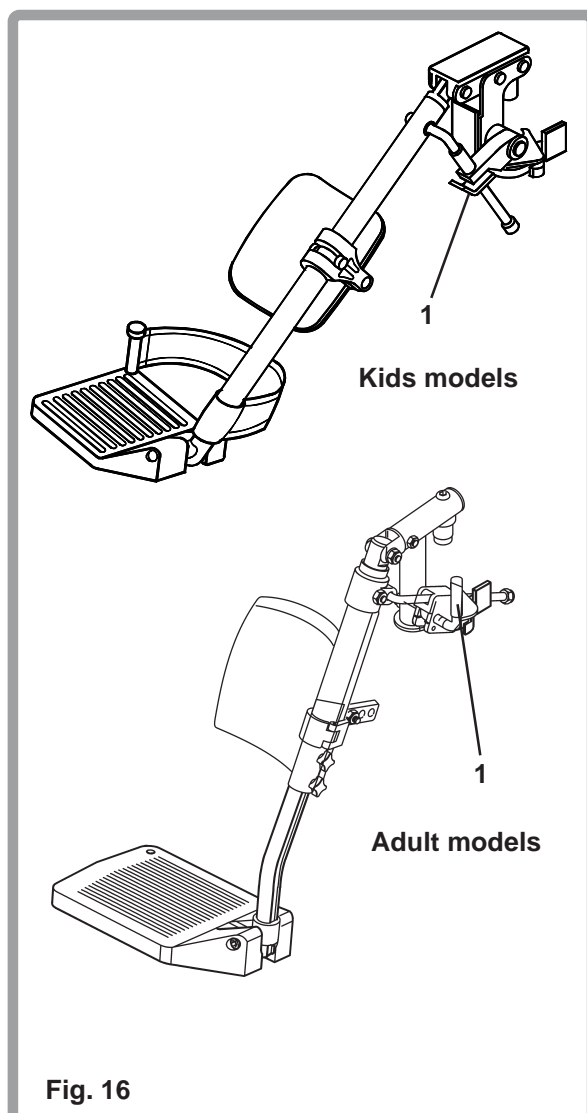

Fig. 16
To install or remove elevating legrests (ELR) see instructions for swing-away footrest assembly on previous pages. To raise the ELR, lift to the desired position, the ELR will automatically lock in place. To lower the ELR while seated in the wheelchair, press the release lever (1) and lower the legrest to the required position. The ELR will automatically lock in place (Fig. 16).